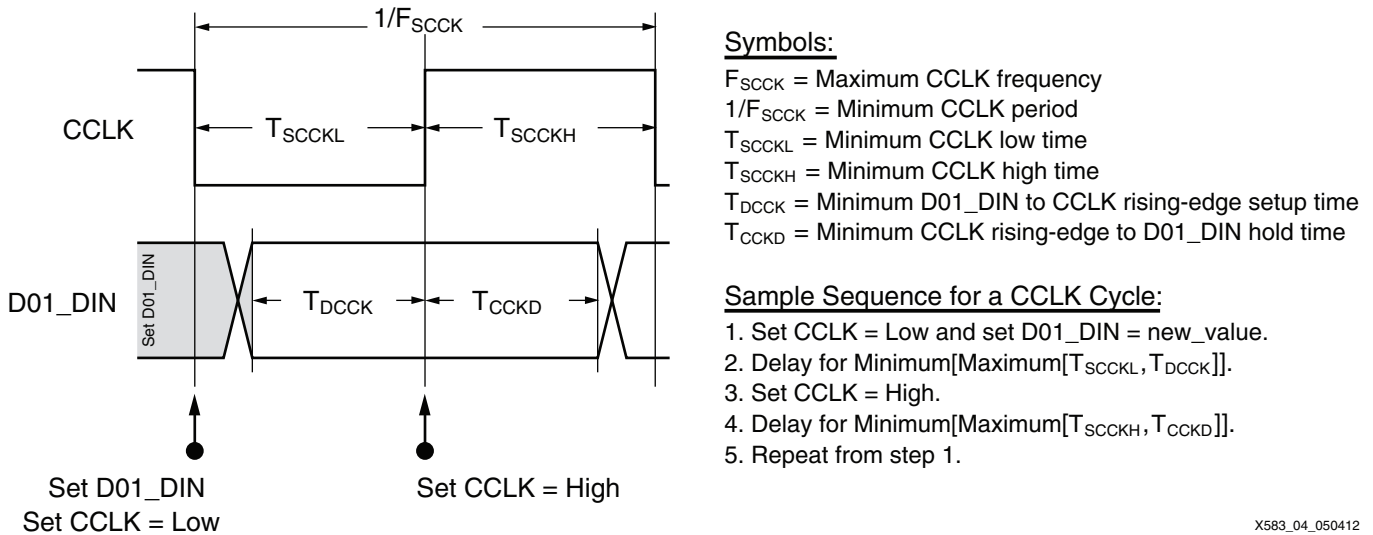

Figure 4: Configuration Timing Requirements
- Verify that data sheet configuration timing requirements are met (see Figure 4).
Figure 4 shows the configuration timing requirements.